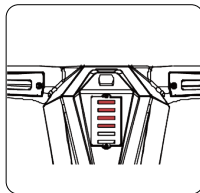

Figure06
4. Press the switch button on the control panel, the icon will change from red to green. Press the water flow button, and when it turns green, increase the water flow as needed. Press the vacuum motor button, and the light will change from red to green, the machine is now fully activated but should not be moved (Figure 06-Figure 07).